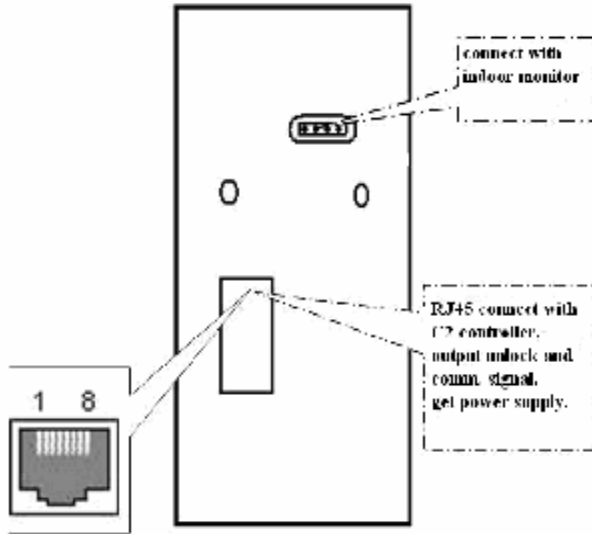

Figure1.fingerprint machine connection port
4、Connect C2 and Video Phone with F701 fingerprint machine, like as Figure 1 show